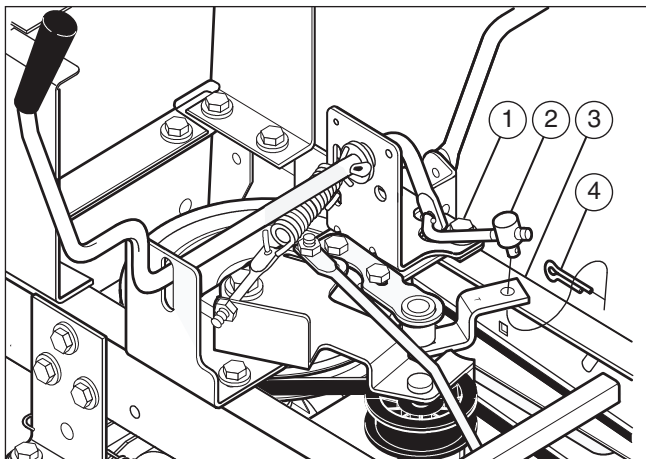

Figure 26
- Disconnect the adjuster nut (2) from the shifter bracket (3) (see **Figure 26**).
7. Remove the adjuster nut (2) from the shifter bracket (3). Pull the motion drive belt over the shifter bracket (3) (see **Figure 26**).
- Check the routing of the motion drive belt (1) (see **Figure 26**). Make sure the motion drive belt is installed correctly on the idler pulley (2). Make sure the steering shaft assembly (3) is inside the motion drive belt.